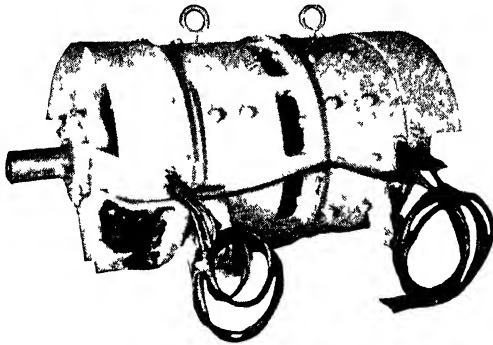

Fig. 13. Combination Auxiliary Generator-Exciter Set Arranged for Belt Drive for Switching and Some Road Locomotives
**AUXILIARY GENERATORS.** These machines are of conventional Westinghouse railway design, insulated throughout with Class B insulation and embodying the same care of manufacture which characterizes the main generator and the traction motors. When the auxiliary generator is of small size (due to mechanical drive of the fans and compressor) this machine is usually mounted in a common frame with the exciter (Fig. 13), the two armatures being on the same shaft supported by two antifriction bearings. When the